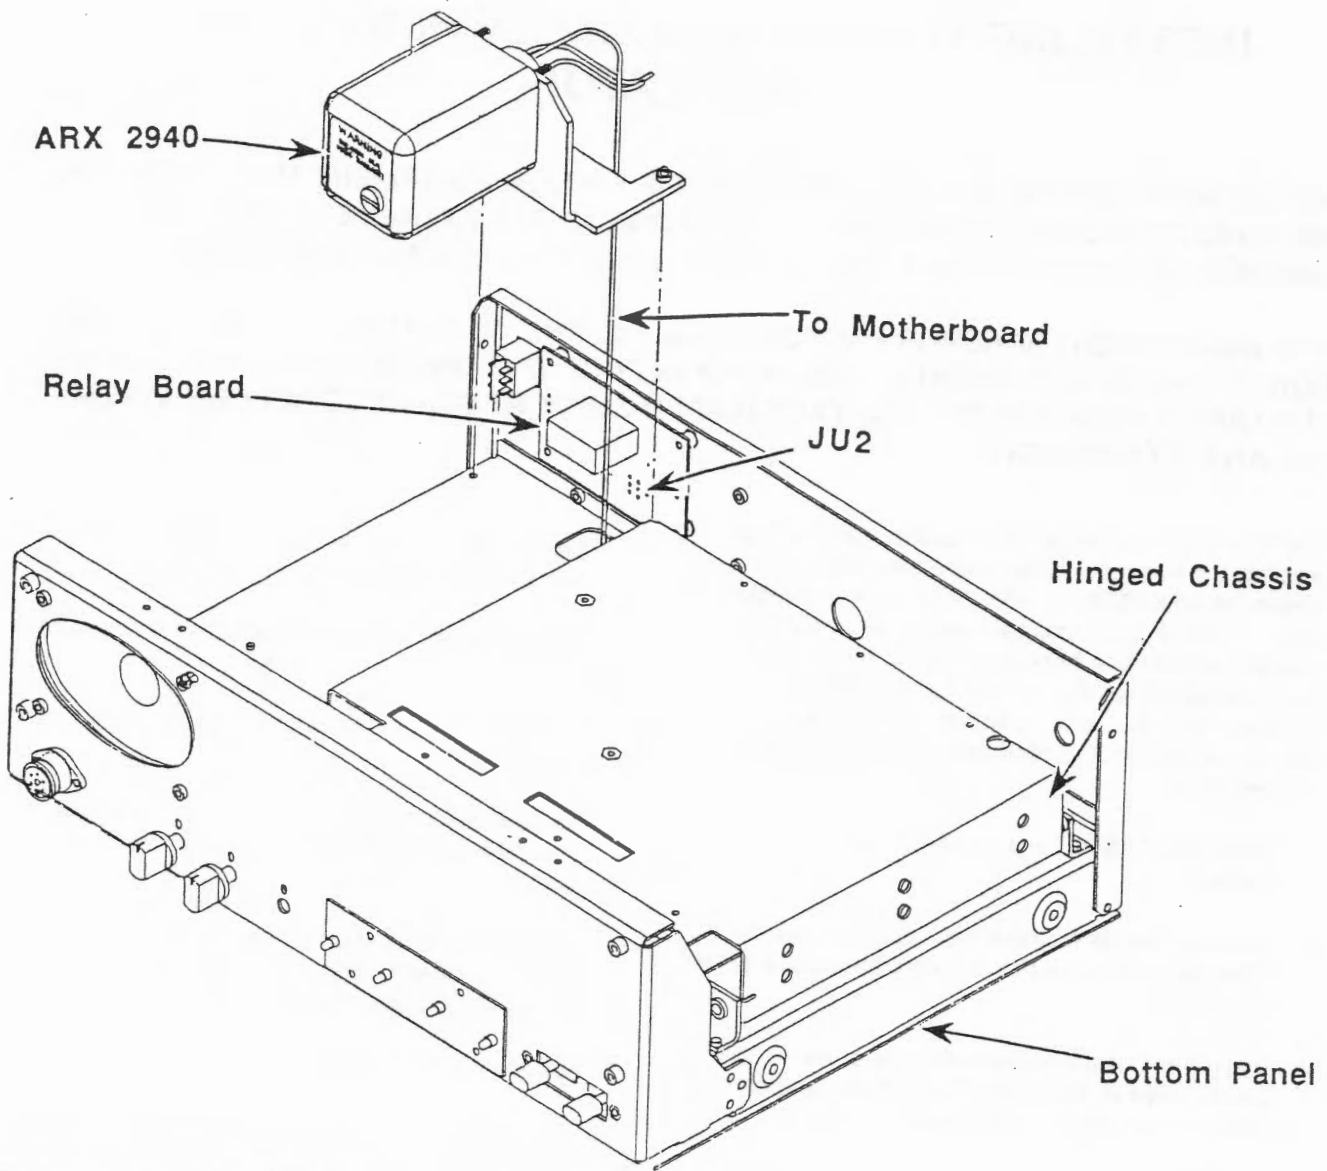

Figure 17. Installing the ARX 2940
3. Insert the 4" red/white wire into one of the +13.8VDC power holes at JU2 in the Relay Board and carefully solder it into place. See Figure 17.